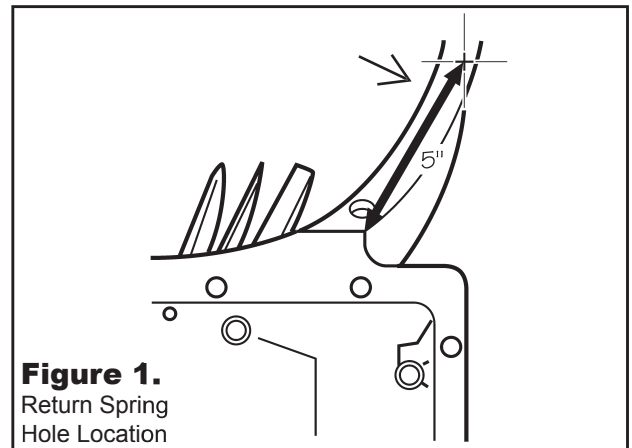
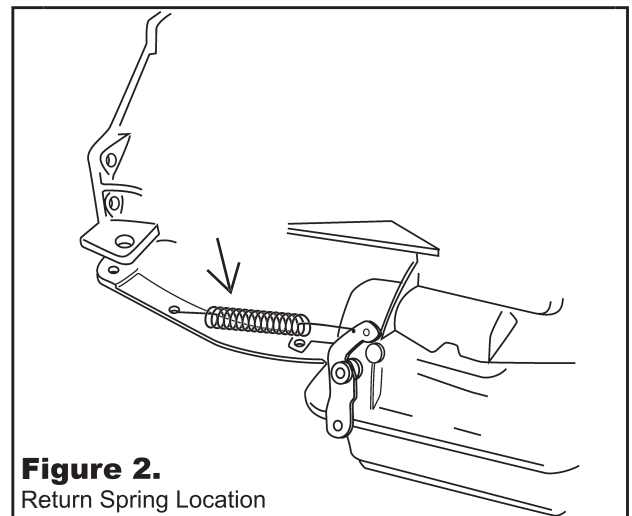

Figure 1.
Figure 2.
6. Drill a 1/8" hole in your transmission bell housing flange as shown in Figure 1. Install the return spring between the case and TV lever as shown in Figure 2.